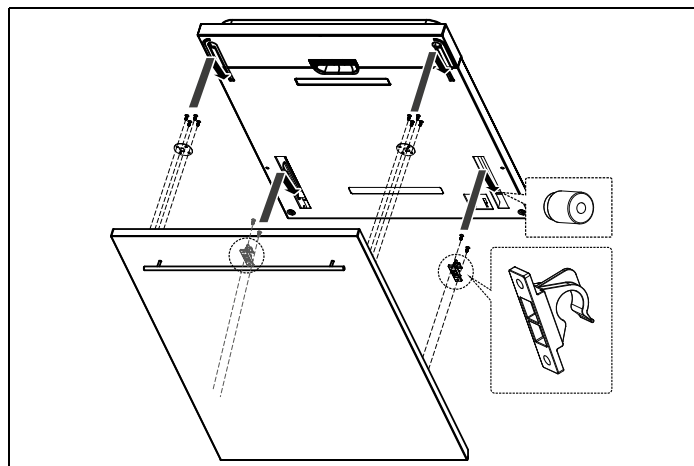
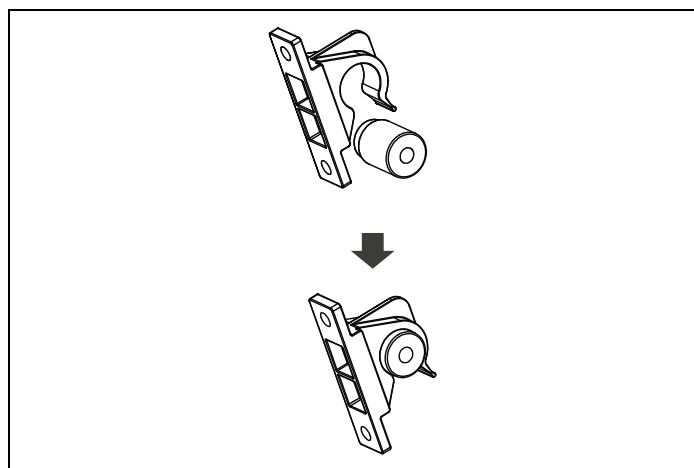

Fig. 11
Fig. 12
- Install the hook on the aesthetic panel (Fig. 11) and put the hook into the slot of the outer door of dishwasher (Fig. 12). After positioning the panel, press top of the aesthetic panel to make sure that the plastic hook are fastened.